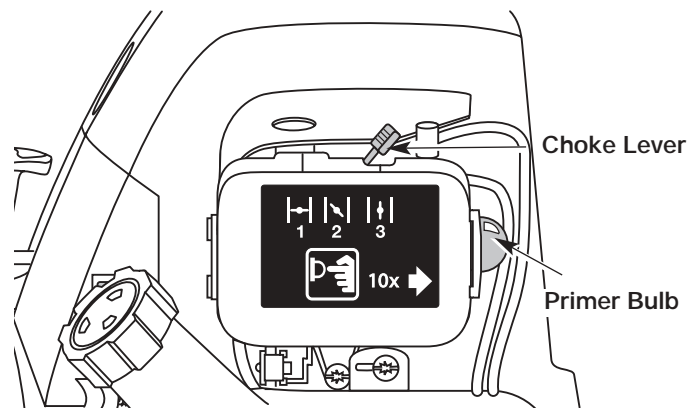

Fig. 21
4. Fully press and release the primer bulb 10 times, slowly. Some amount of **fuel should be visible in the primer bulb** and fuel lines (Fig. 21). If you can't see fuel in the bulb, press and release the bulb as many times as it takes before you can see fuel in it.
5. Place the choke lever in Position 1 (Fig. 21).